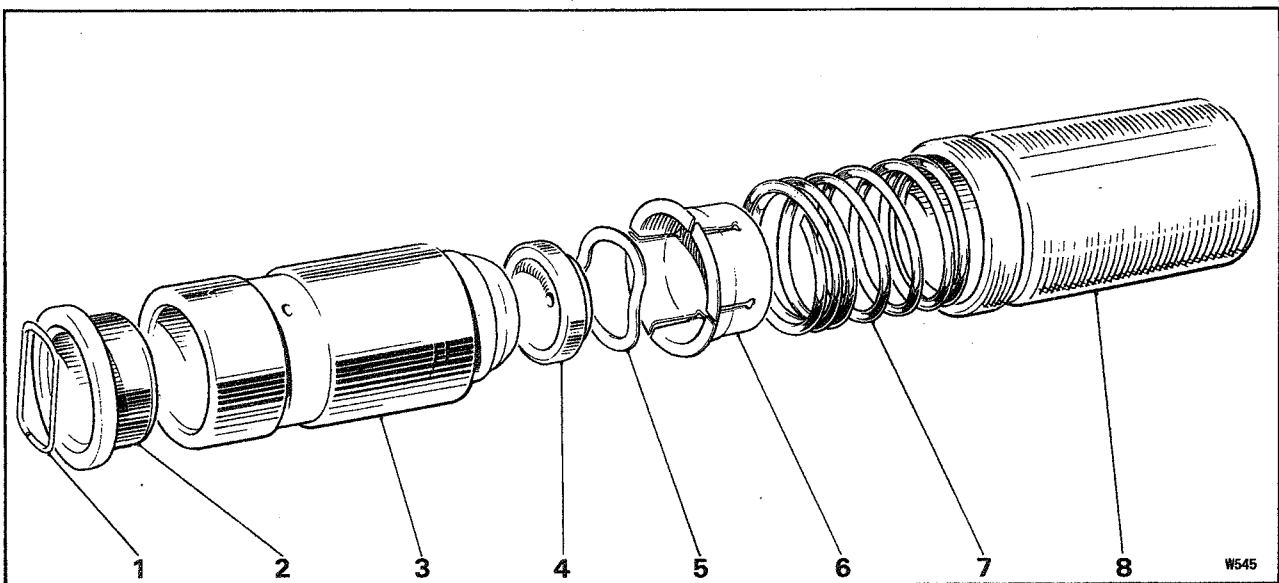

Fig. E29 Hydraulic tappet
The hydraulic tappet (see Fig. E29) comprises a cylindrical barrel, closed at the bottom end that seats onto the camshaft. Inserted into this body is a plunger that is free to slide up and down; the clearance between the body and plunger is very small. At the lower end of the plunger is a one-way valve. The valve is held closed by a wave washer that is housed in a retainer spigot, clipped onto the end of the plunger.
1. Press down the spherical cap situated in the top of the tappet and remove the circlip holding the cap in place. After gradually releasing the pressure from the spherical cap the tappet can be dismantled (see Fig. E29).
1. Commence assembly of the tappet by fitting the wave washer (see Fig. E29) and valve into the retainer.